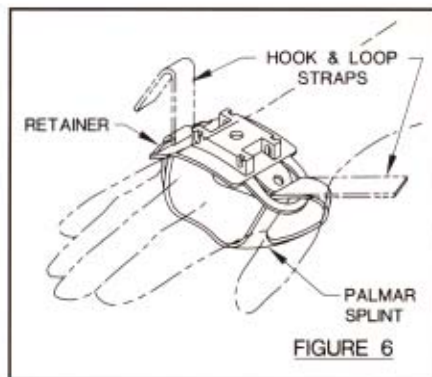

FIGURE 6
- 5 Attach palmar splint to retainer with hook and loop straps. Adjust length and tension of straps to center retainer on dorsum of hand. See **Figure 6** page 8.